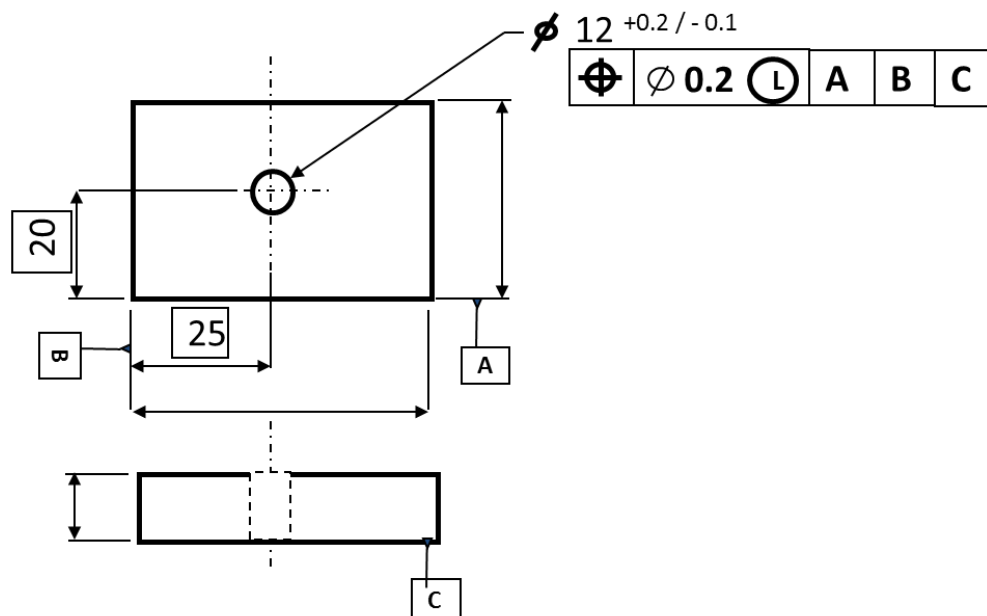

Figure 1
- 1C** With reference to **Figure 1**, indicate all the possible feature sizes of the hole, its bonus tolerance and total positional tolerance using a tabular column. What is the virtual condition dimension for this feature? All dimensions are in mm. **(04)**